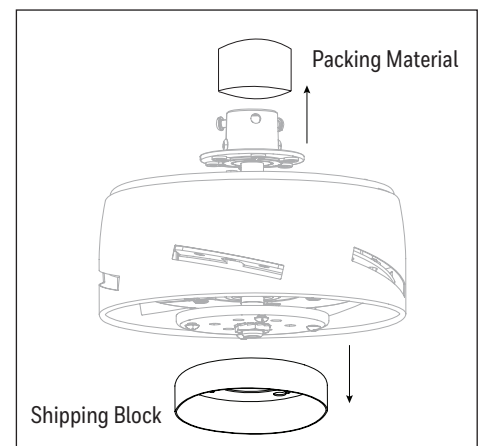

Figure 2.3
3. Remove and dispose of the orange packing material from the yoke of the motor assembly. Then, loosen the four fitter plate screws preassembled to the fitter plate. Then, turn the orange shipping block counterclockwise and remove. Discard the shipping block (Figure 2.3).